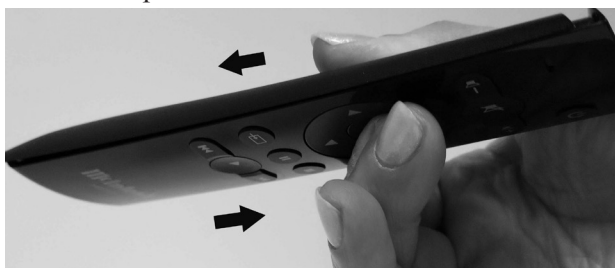

Figure 13– Opening the Remote Control
- Pinch the remote with your index finger resting on the SELECT/TRIM button and your thumb on the backside (facing you) opposite your index finger's position. Your thumb and remote should both be pointing away from you (*see Figure 13*).